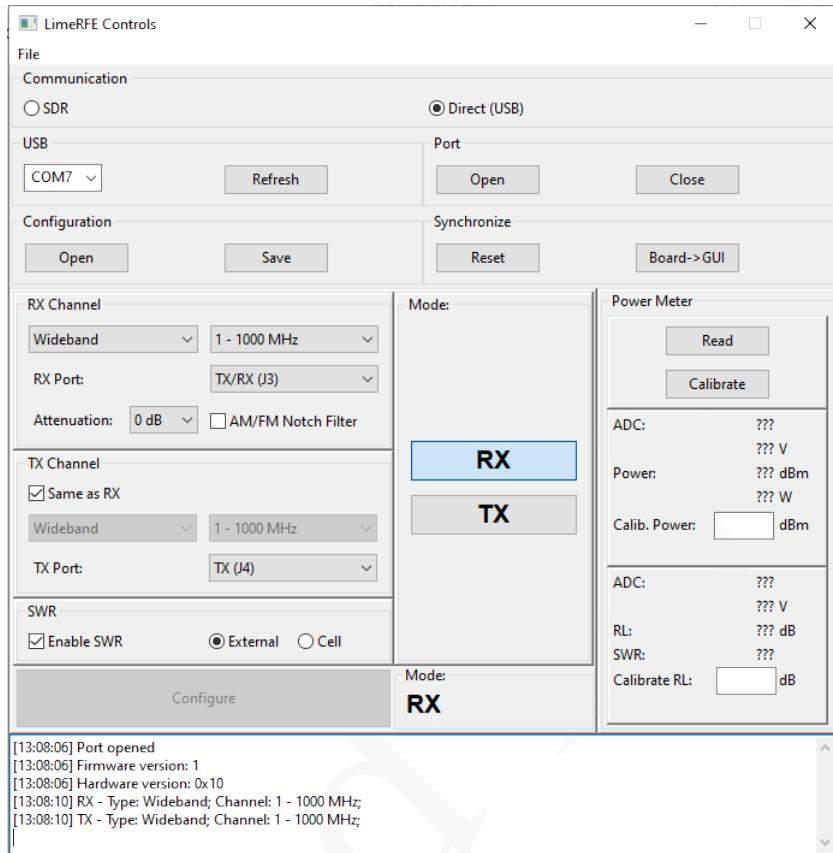

Figure 5: LimeRFE Controls window with enabled SWR panel and enabled SWR
- SWR subsystem of the LimeRFE is disabled by default. It can be enabled in the *SWR* panel. In the same panel it is possible to choose between the source of the SWR signals. SWR subsystem provides the means of measuring RF signal power. These signals can be direct and reflected power signals provided by an external directional coupler and connected to the J18 and J17 respectively. In that case the source of the SWR signals is denoted as *External*. In this case both direct power and reflection coefficient are calculated. Another source for power meter is denoted as *Cellular*. Here, the signal proportional to the transmitted RF signal for cellular channels is internally connected to the power meter. In this case only the transmitted power is available. Measurement results are available within the *Power Meter* panel which becomes available after pushing the *Configure* button, in case the SWR is enabled (Figure 5).